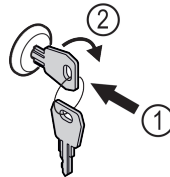

Fig. 242
- Insert the key. Fig. 242 (1)
- Turn the key clockwise by 90°. Fig. 242 (2)